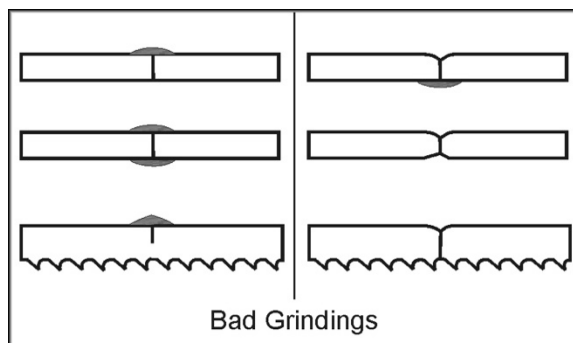
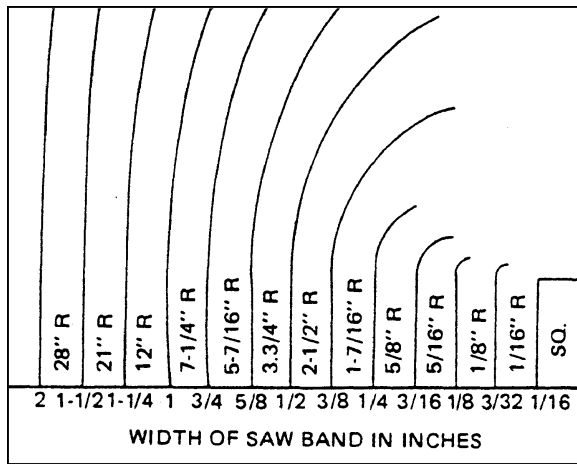

Figure 20
Figure 21
6. Check that the welded section is the same thickness as the rest of the blade. If not, grind off excess welding material using the grinder (Figure 20). Figure 21 illustrates some unacceptable grinding.